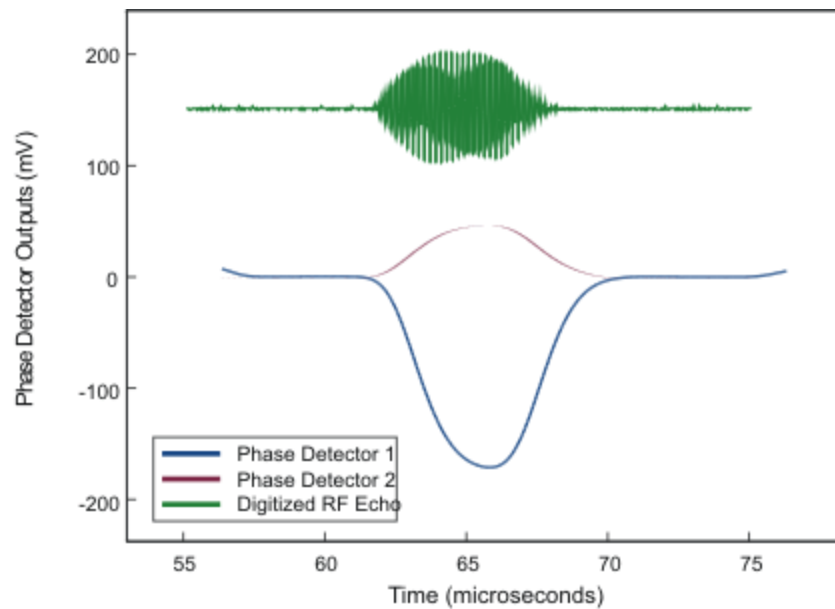

Figure 2-3. Typical Phase Sensitive Detector Output.
11. While observing one of the "Phase Detector Mon. -20 dB" test points (using a high impedance oscilloscope input), set the oscilloscope sensitivity at 100 mV/cm. Check that an in-phase condition exists by changing the frequency of Synthesizer No. 1 in very small steps. If the gain has been set properly in step 10, the signal should not exceed +/-200 mV for an in-phase signal. A typical waveform is shown in Figure 2-3.